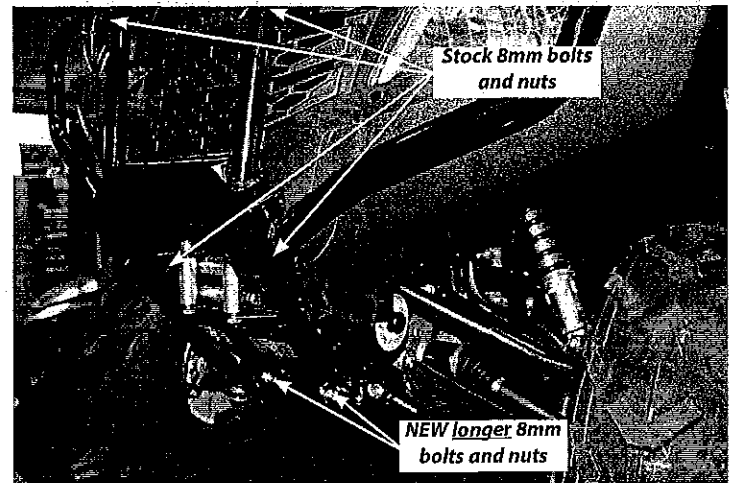

Figure 11
11. Hang brushguard on front of vehicle. Fasten upper portion of brushguard by reusing four stock 8mm bolts and nuts. Fasten the lower portion using two new, longer, 8mm bolts and nuts found in this kit. See Figure 11.